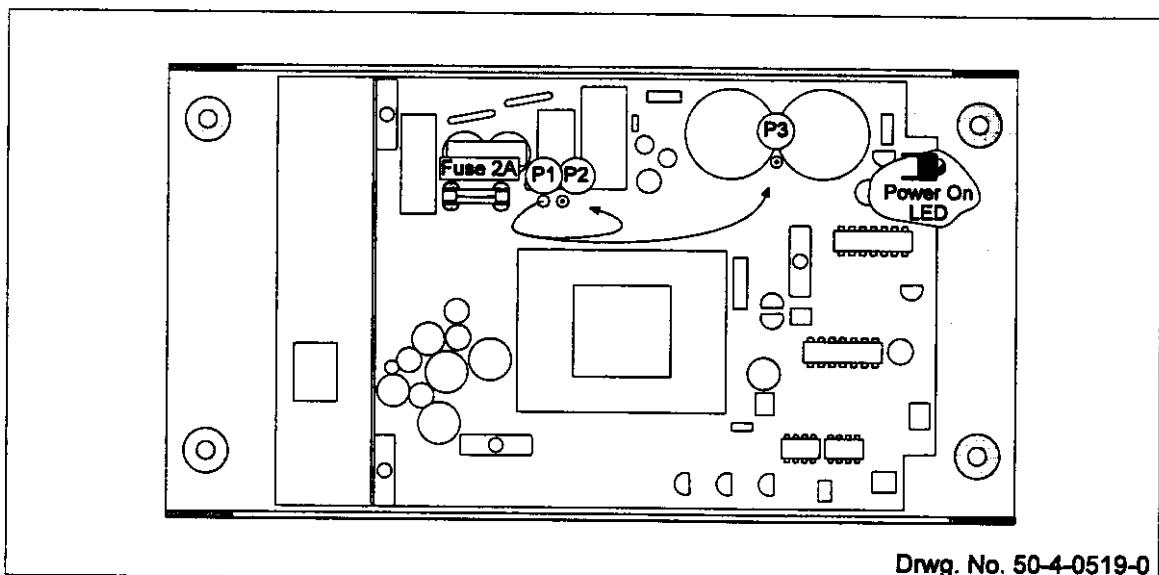

Figure 12.1 2828 Power Supply
**Note:** Ensure that the power supply is set up for the correct mains voltage by checking the linking on the PCB. P1 is bridged to P2 to select mains voltages in the range 184 to 276V AC (230V nominal), or bridged to P3 to select mains voltages in the range 88 to 132V AC (110V nominal). Refer to Figure 12.1 to locate P1,2,3.